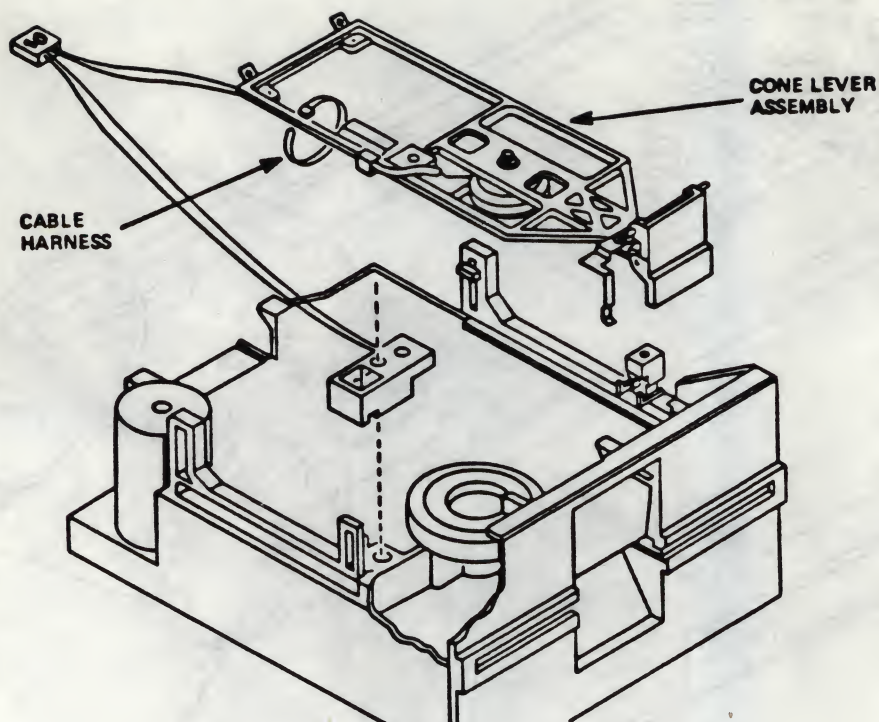

Figure 5-6
- 5.4.15 Harness the top index emitter cables to the Cone Lever Assembly (see Figure 5-6).